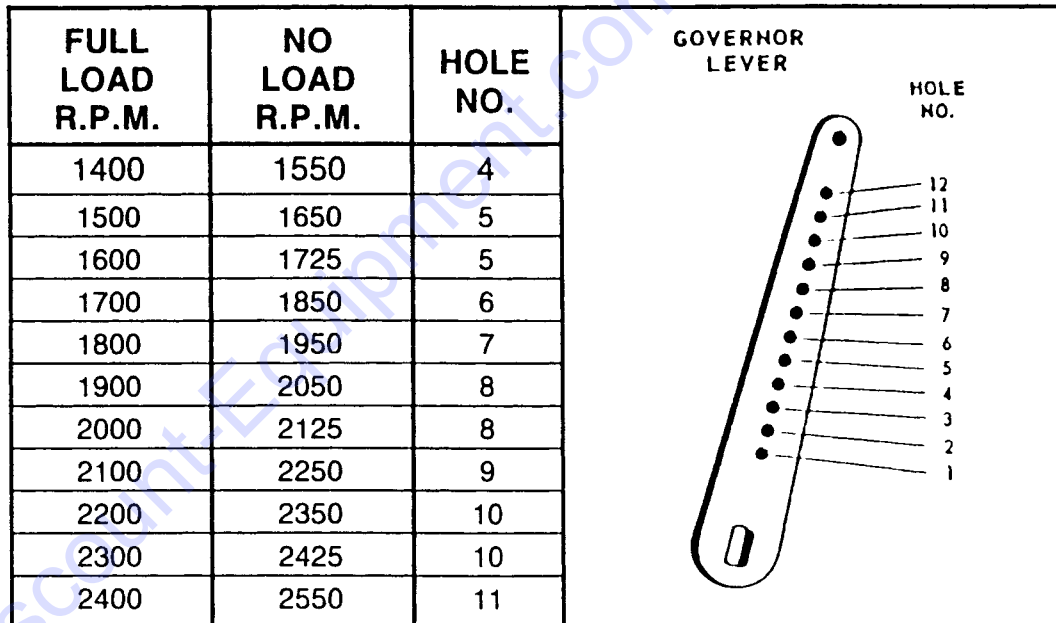
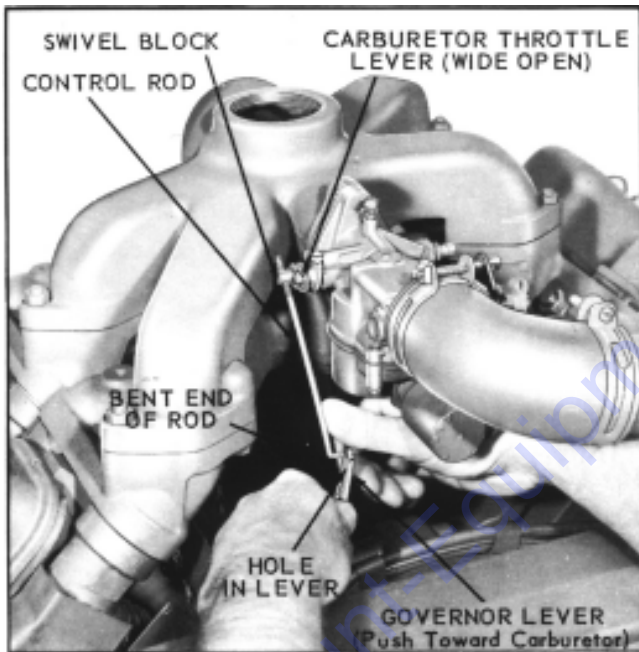

FIG. 17
FIG. 16
**GOVERNOR LEVER** — The governor lever, *Fig. 17*, is furnished with 12 holes for attaching the governor spring. It is very important that the spring is hooked into the proper hole to suit the speed at which the engine is to be operated. The Governor Lever Chart shows the full load and no load speeds of the engine and the hole corresponding thereto, for either a fixed speed, a variable speed or two speed (over-center idle control) governor. Note that the *full load* speed is less than the *no load* speed and this must be taken into consideration when readjusting the governor. As an example; if the engine is to be operated at 2000 revolutions per minute under load, the spring should be hooked into the 8th hole in the governor lever and the spring tension adjusted, by means of the adjusting screw, to run 2125 R.P.M. under no load. The speed at full load will then be approximately 2000 revolutions per minute.
**GOVERNOR ADJUSTMENT** (Fig. 16, Fig. 17) —The governor rod connection to the carburetor must be very carefully adjusted for length, otherwise the governor will not function properly and cause the engine to surge badly. With the engine at rest, the governor spring will keep the flyweights *in*, and the control rod must be of such length as to hold the carburetor throttle wide open at that point.
With the *control rod* disconnected from the *governor lever*, as illustrated in Fig. 16, push the rod toward the carburetor as far as it will go. This will put the *carburetor throttle lever* in a wide open position. The governor lever should then be moved as far as possible in the same direction. Holding both parts in the above position, the rod should be screwed in or out of the *swivel block* on the carburetor, until the bent end of the rod will register with *hole* in lever, then screw rod in one more turn. The extra turn will shorten the linkage slightly and will enable the carburetor throttle lever to bounce back from the stop pin rather than jam against the pin, when a load is suddenly applied to an idling engine. This will eliminate excessive wear on the threads in the carburetor throttle swivel block.
**GOVERNOR LEVER** — The governor lever, Fig. 17, is furnished with 12 holes for attaching the governor spring. It is very important that the spring is hooked into the proper hole to suit the speed at which the engine is to be operated. The Governor Lever Chart shows the full load and no load speeds of the engine and the hole corresponding thereto, for either a fixed speed, a variable speed or two speed (over-center idle control) governor. Note that the *full load* speed is less than the *no load* speed and this must be taken into consideration when readjusting the governor. As an example; if the engine is to be operated at 2000 revolutions per minute under load, the spring should be hooked into the 6th hole in the governor lever and the spring tension adjusted, by means of the adjusting screw, to run 2200 R.P.M. under no load. The speed at full load will then be approximately 2000 revolutions per minute.